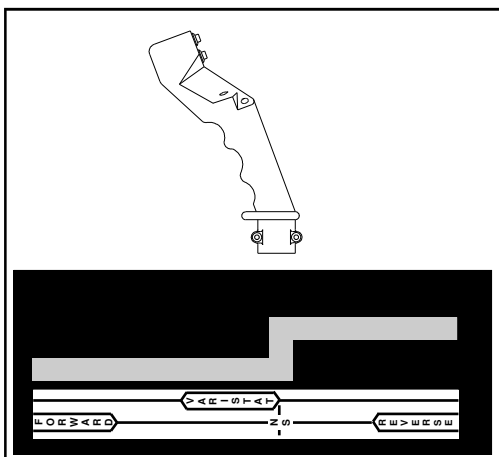

FIG 5.4
2. To move forward, slowly push the hydrostatic control lever (fig. 5.4) forward. The farther the control lever is moved, the faster the detasseler will travel. To stop, slowly pull the lever to the "N" (neutral) position.